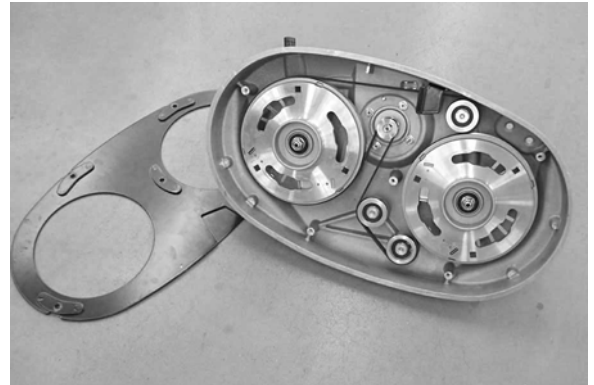

FIG. 68
- Carefully lay the scrub head bottom side up and remove the belt cover, 10 mm wrench required (Figure 68).